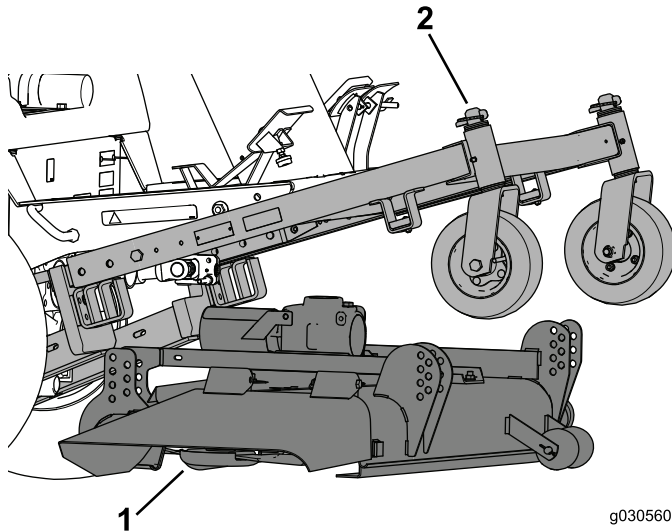

Figure 15
1. Raise the carrier frame (Figure 15).
2. Move the mower deck under the carrier frame (Figure 15).